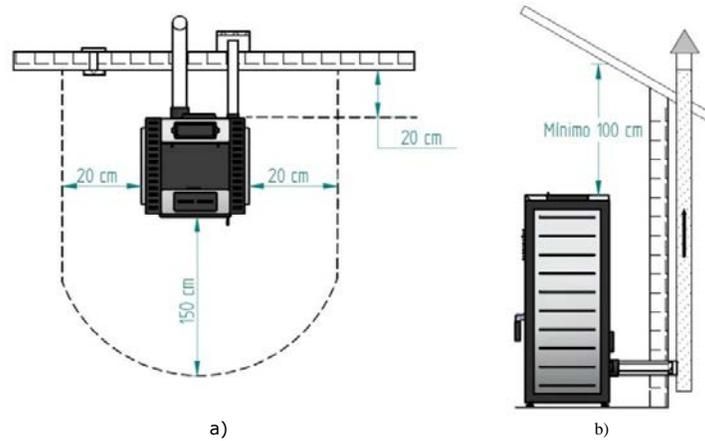

Figure 9 - Minimum distances from all surfaces: a) upper view of the unit's installation; b) side view of the unit's installation
The minimum distance between the free-standing pellet fire unit and particularly flammable surfaces is specified in Figure 9. The top of the unit must be at least 100cm separated from the ceiling, especially in rooms with ceilings consisting of flammable
- As indicated in Figure 9, the exhaust pipe must be assembled so as to allow cleaning and maintenance of the pipe by inserting inspection points.